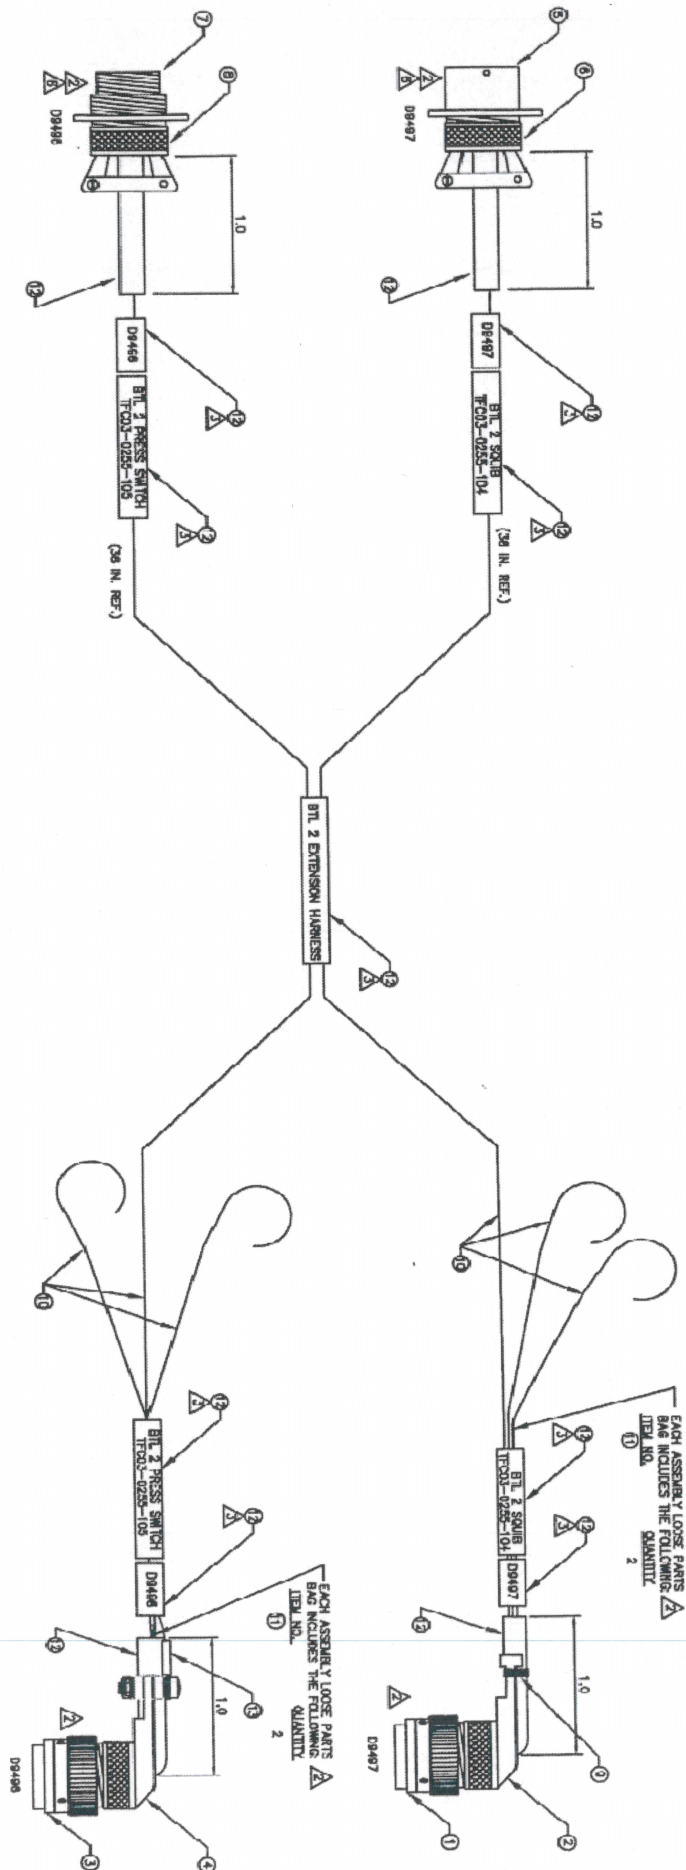

Figure 1. Bottle 2 Extension Harness
- a. The end of the extension harness, without the ground wires, is the end that will mate to the existing BTL 2 Pressure Switch and Squib Harnesses. The other end of the extension harness, with the ground wires, is the end that will mate to BTL 2's Extinguisher Container. See Appendix 1's Figure 1 for more details.
- b. Slide Qty (1) 4" piece of the included heat shrink FIT221-1-1/2(CLR) over each connector at the end of the harness that will be mated to the existing harness (end without the ground wires).
- ii. At the end of the BTL 2 Extension Harness are two sets of ground wires (W9448-001-20/ W9448-002-20 and W9449-001-20/W9449-002-20). See Appendix 1's Figure 1 for more details. Connect ring terminals, P/N 36154 to the ends of these ground wires. Route these ground wires to the existing ground studs and connect them as follows:
Appendix 1, Figure 1 Notes: